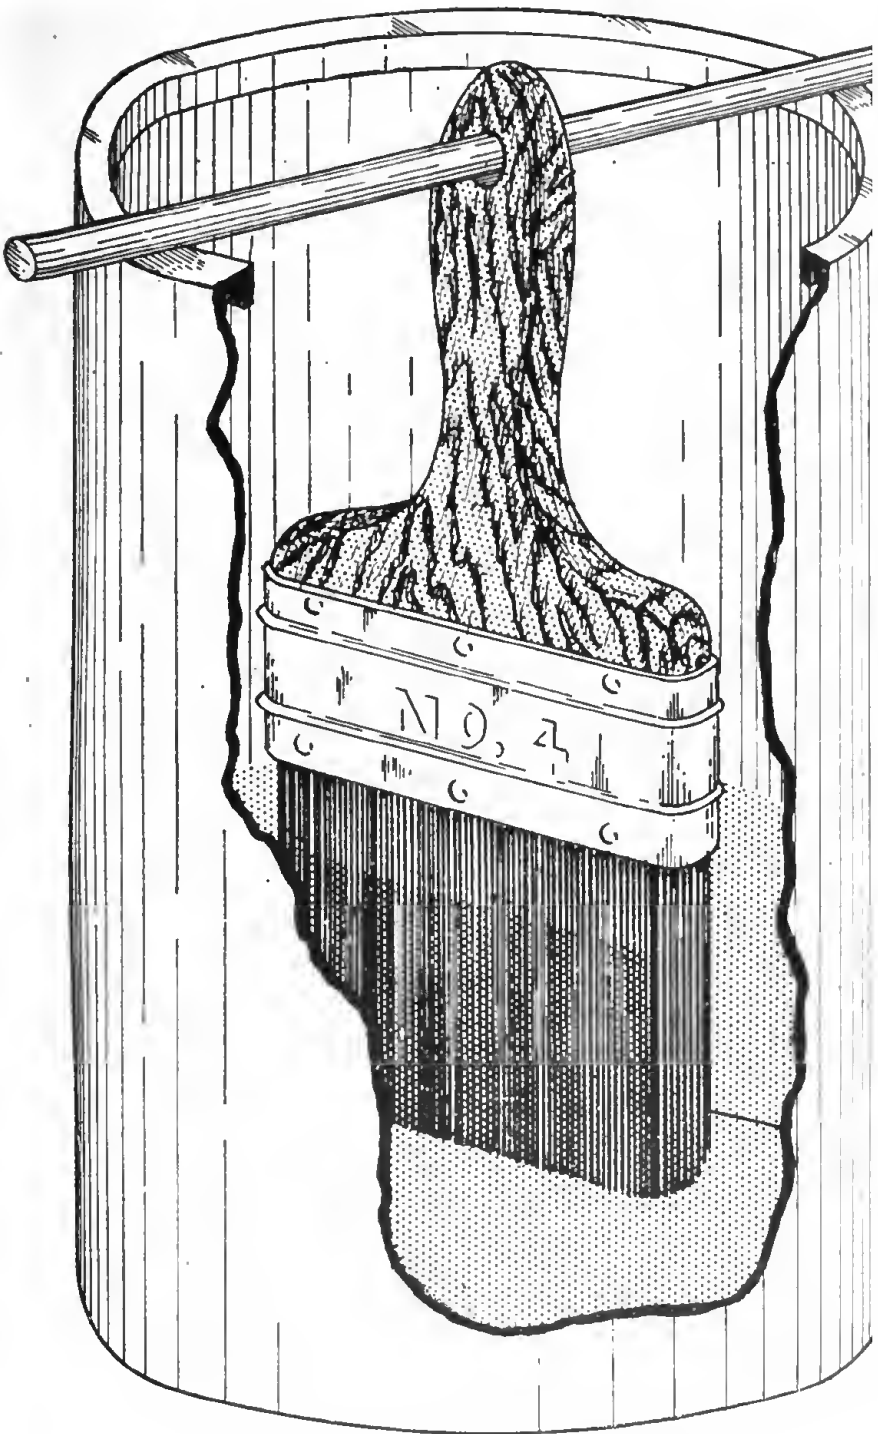

Figure 160. Container for brush.
c. BRUSH. The use of a brush is familiar to everyone. However, the life of many brushes is materially shortened by allowing dope and paint to dry on them. A brush that is used frequently may be kept in a sealed can of solvent when not in use. It should not be allowed to rest on its bristles but should be supported by the handle so that the bristles are just off the bottom of the container. (See fig. 160.) If a brush is used only infrequently, it should be thoroughly cleaned after each use. This may be accomplished by first cleaning with the proper solvent and then scrubbing the brush with soap and water. After scrubbing, the brush should be rinsed with clear water. If any odor of the solvent can be detected after rinsing, it should be rewashed.